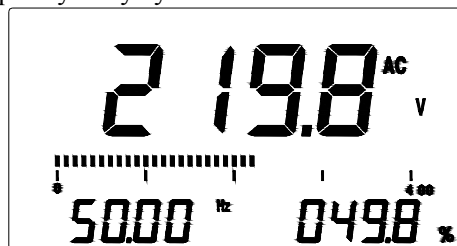

Figure3-13.Frequency and Duty cycle ratio
**Measuring Frequency and Duty cycle ratio (See Figure3-13)**